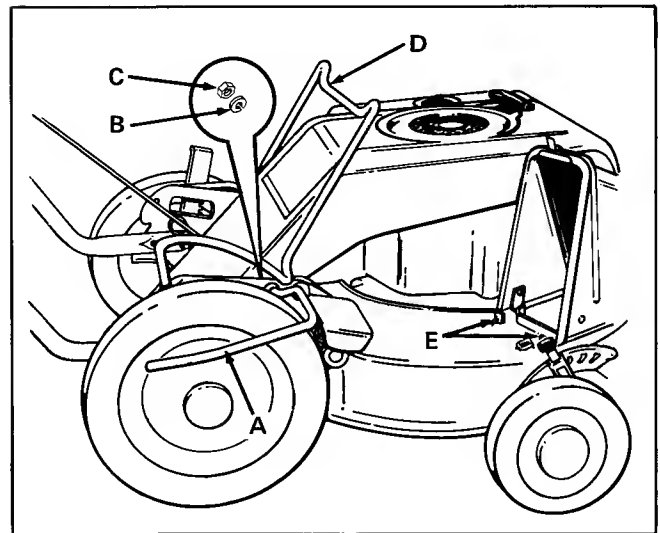
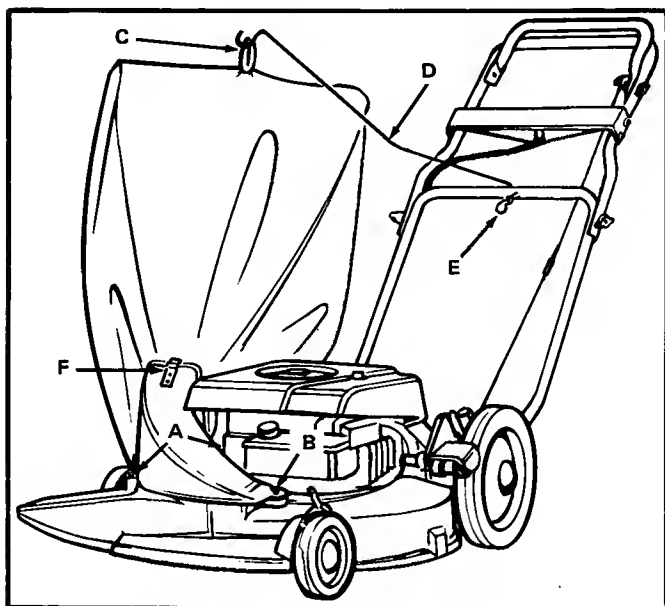

Figure 1. Installing Bag Guard
Figure 2. Installing Leaf Bag
1. Pivot the bag support (item D, figure 1) for regular grass bag rearward out of the way.
2. Install bag guard (item A, figure 1) for leaf bag in the hole provided on the right-hand, rear wheel bracket assembly. Install lock-washer and hex nut (items B and C) finger-tight.
6. Install the new chute provided on the mower deck by sliding its catches under the spring bolts (items A, figure 2) and installing the wing screw (item B).
8. With the loop (item C) at the top as shown, install the new bag by slipping the bottom edge of the bag opening in place between the two tabs (item E, figure 1) and the chute. Then push the top edge of the opening onto the chute and into the clip (item F, figure 2).